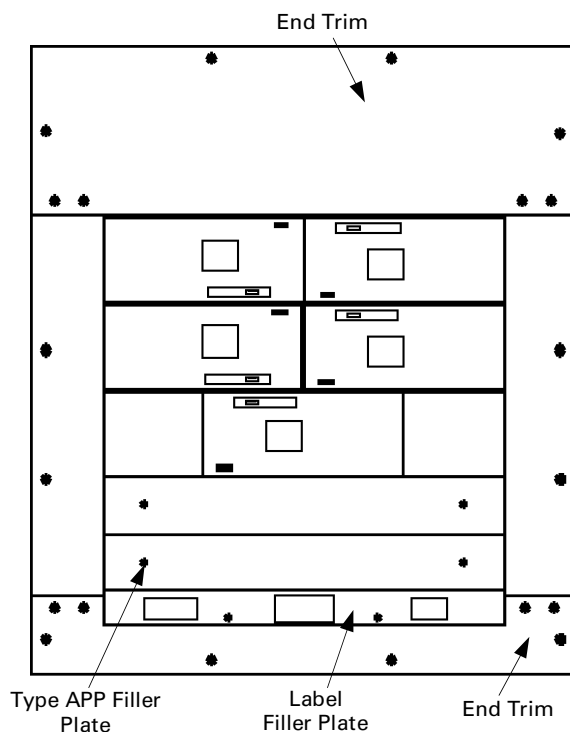

Figure 1. Installation of the end trims. (Top feed is shown.)
2. Fasten the end trims (with turned edges toward the interior) to the box with the screws provided, as shown in Figure 1. Do not tighten the screws. The end trim with the cutout should be installed on the load end of the box.
3. Make sure that all positions on the interior between the end trims are occupied with a device or an appropriate type APP filler plate, as shown in Figure 1.